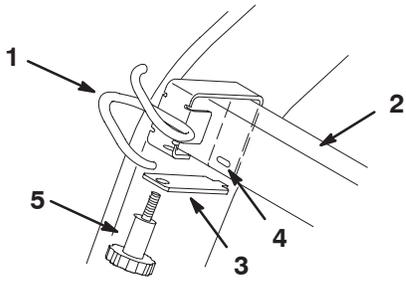

Figure 3
2. Place the cable guide over the loader arm cross bar on the far right side (Fig. 3).
3. Insert the clamp into the slot in the cable guide, then secure it with a knob (Fig. 3).